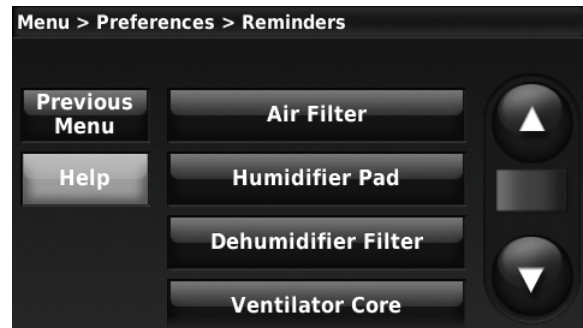

Fig. 264.
2. Press Reminders. Fig. 264 is displayed.